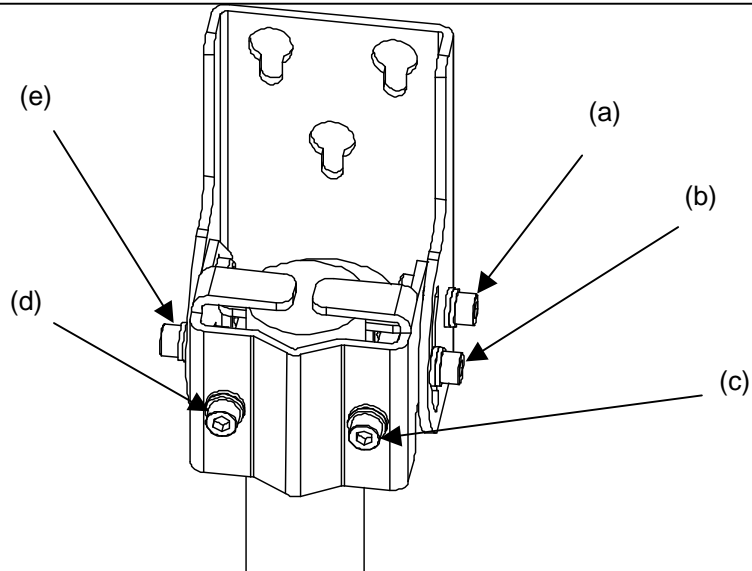

Figure 5-3 Installing the AP-RFU Mounting Bracket on the Pole
- (1) As shown in Figure 5-3, loosen the bolts (a), (b), and (c) and install the AP-RFU mounting bracket on the pole. Next, tighten the bolts (a), (b), and (c). (Recommended tightening torque: 8.5 N-m)